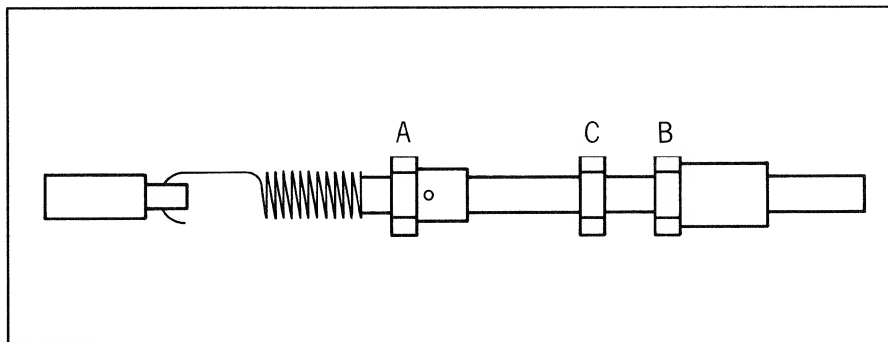

Fig. 3.1.5-5
- Turn nut [A] to adjust the length of the spring until you get $\Delta V = 2V$. (see Fig. 3.1.5-5). (V_1 and V_2 for the moment not important!)